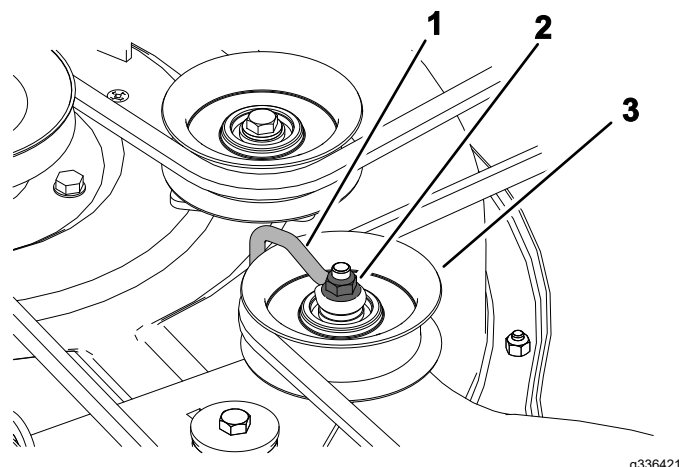

Figure 51
5. For decks with 3 blades, loosen the nut securing the wire form to the idler pulley (Figure 51).
Note: Position the wireform against the idler arm as shown in Figure 51.